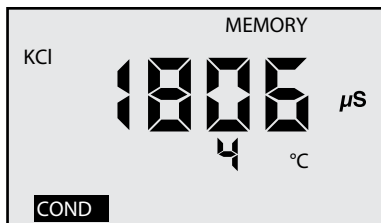

Figure 8
2. **“MEMORY”** will appear and the temperature display will be momentarily replaced by a number (1-100) showing the position of the record. Figure 8 shows a reading of 1806 μS stored in memory record #4.